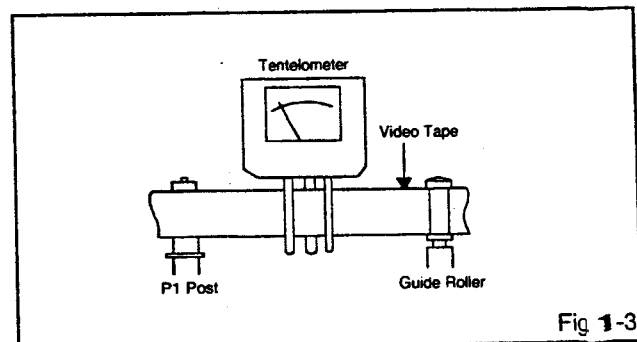

Fig. 1-3
2. Install the tentelometer as shown in Fig. 1-3. Confirm the value is within 20~27gr/cm at this time.